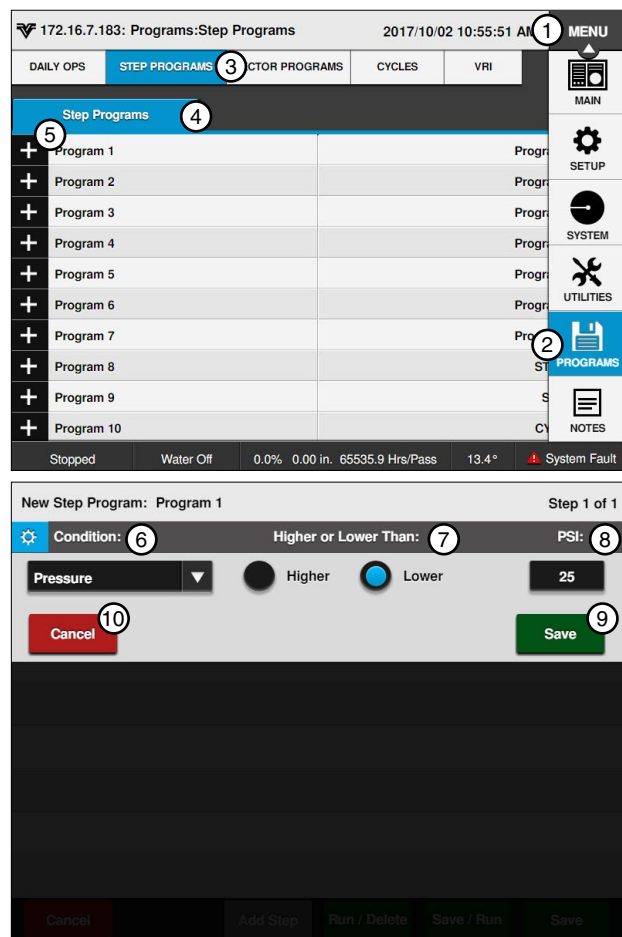

Figure 114-1 1. Menu
2. Push the **New Program** button corresponding to the preferred program number as shown in Figure 114-1.